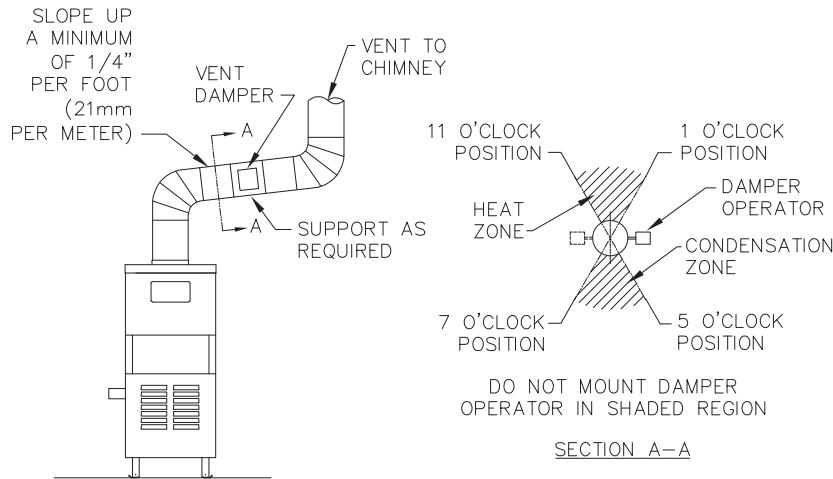

Figure 4.3: Venting with Vent Damper in Horizontal Position
4. Orient the damper operator to facilitate connection of the harness with the vent damper and boiler. Note flue gas flow arrow on vent damper and orient as required. For installation with damper mounted in vertical position, see Figure 4.2. For installation with damper mounted in horizontal position, mount the unit as shown in Figure 4.3 to avoid excessive heat on the operator or condensation drips into the operator.